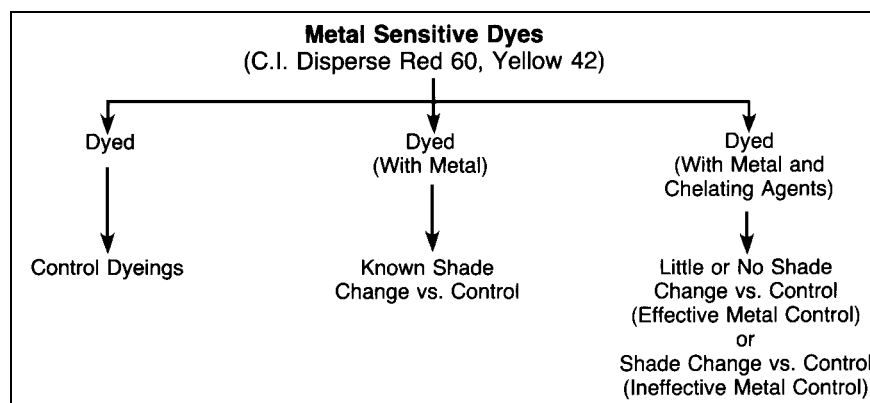

Fig. 1
2.1 The effectiveness of chelating agents in sequestering metals in a dye-bath, thereby preventing metal-induced color change, is determined by the protocol in Fig. 1.